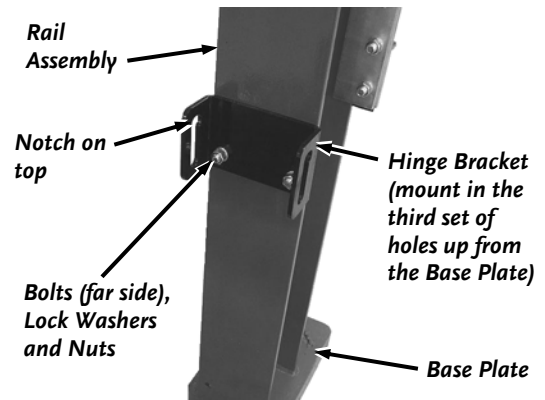

Figure 8
5. Make sure the notch is on top as you position the hinge bracket onto the rail assembly (**Figure 8**). Install two 1/2-13 x 1-1/2 inch long hex head bolts, lock Washers, and nuts. Only hand tighten the nuts at this time.